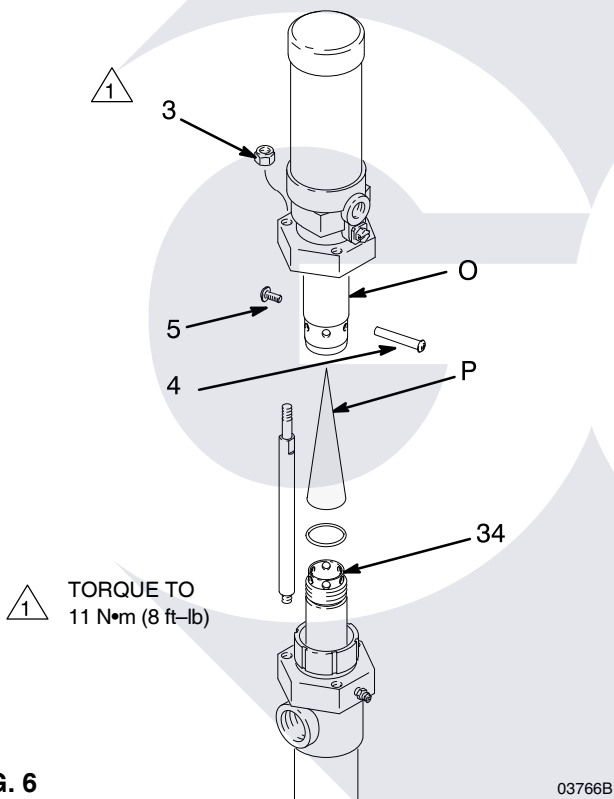

FIG. 6
**NOTE:** Removing the muffler (P, Fig 6) will increase both the pump flow rate and the exhaust noise and will reduce icing.
Flush the pump, disconnect the air supply and relieve all pressures in the system. Remove the pump from its mounting. Unscrew the tie rod locknuts (3), remove the screw (5) and barrel (4) set and lift the air motor. Unscrew the rod (34). See Fig 6.
Use lithium base grease on the threads of the rod (34). Insert the muffler (P) as shown. Hand tighten the rod (34) into the air motor connecting rod. Install the screw and barrel set (4 and 5). Lubricate the tie rod threads. To ensure alignment, thread the tie rod locknuts (3) loosely onto the tie rods, then torque evenly to 11 N•m (8 ft-lb). See Fig 6.